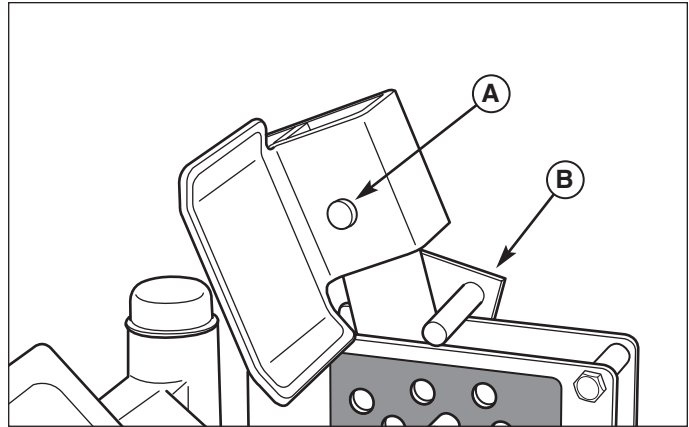

Figure 36. Remove Lift Pedal
- Remove the hairpin clip and clevis pin and remove the deck lift foot pedal. Lift the floor plate to gain access to the PTO drive belt. See Figure 36.